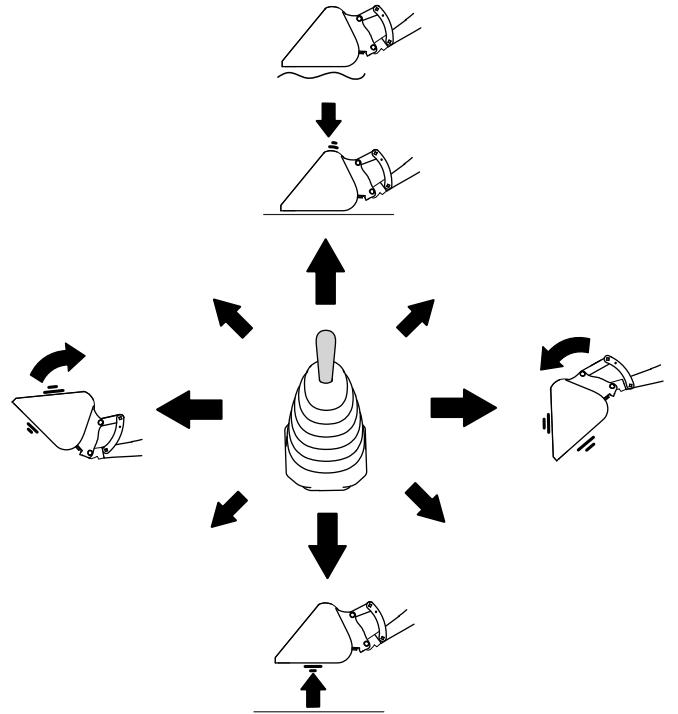

Figure 59
**Note:** Figure 59 illustrates the use of the joystick from the operator's position.